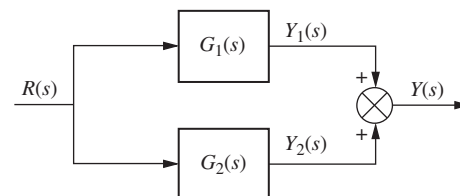

FIGURE I-5.8
11. Consider the parallel subsystems shown in Figure I-5.8. If  $G_1(s)$  is represented in state space as